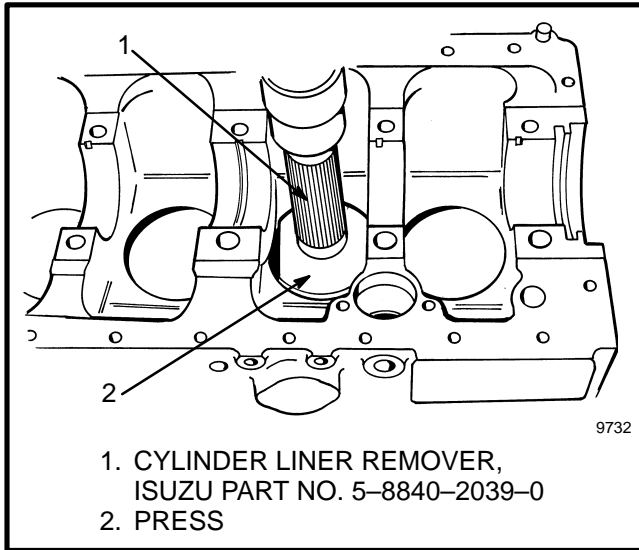

FIGURE 53. CYLINDER LINER, REMOVAL
1. To remove the cylinder liner, install the remover tool and the special shaft tool to the bottom of the cylinder liner. Use a press to push the liner from the cylinder block. See FIGURE 53.